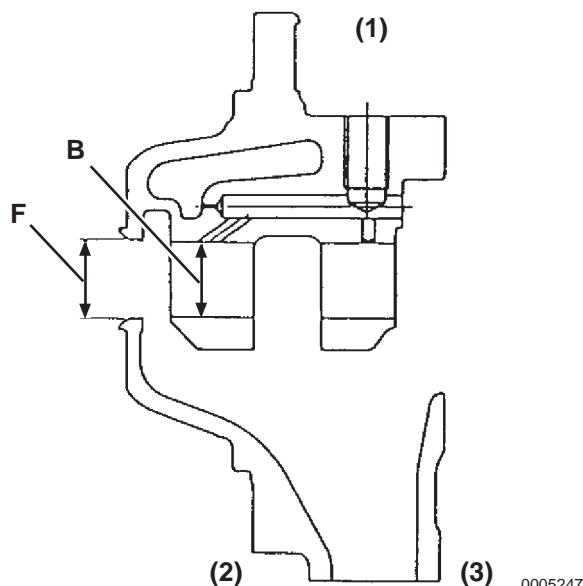

Figure 9-7
3. Measure dimensions (**Figure 9-7, (B)**) and (**Figure 9-7, (F)**) of the bearing housing. Replace the bearing housing if either measured value exceeds the wear limit.
- Bearing housing inside diameter (**Figure 9-7, (B)**) Wear limit: 16.11 mm (0.634 in.)
- Seal ring insertion hole on turbine side (**Figure 9-7, (F)**) Wear limit: 17.03 mm (0.670 in.)